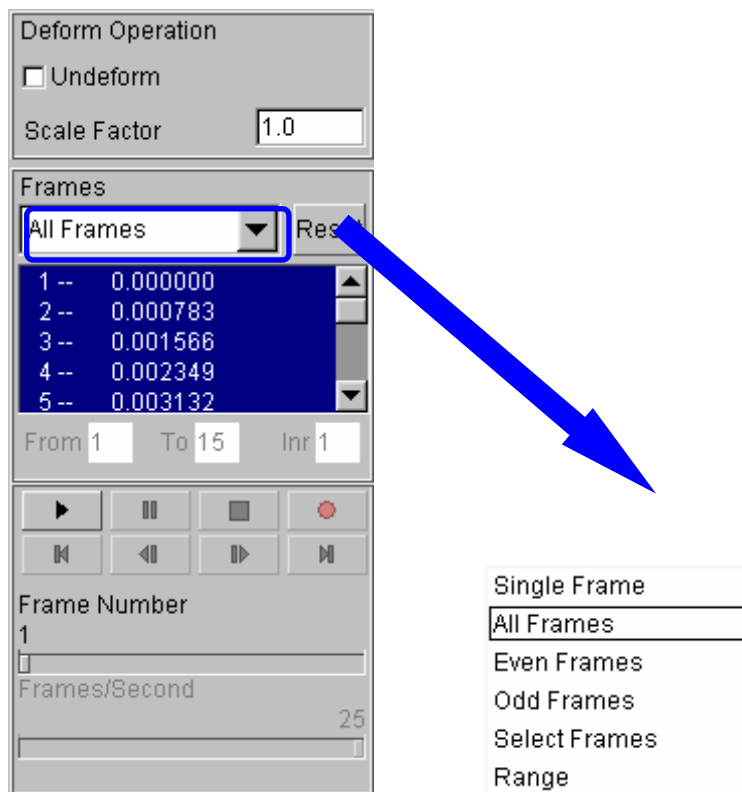

Figure 4.34 Animating deformation dialog box
1. The default **Plot State** is **Deformation**. In the **Frame** dialog, select **All Frames** and press **Play** button to animate the results. See Figure 4.34